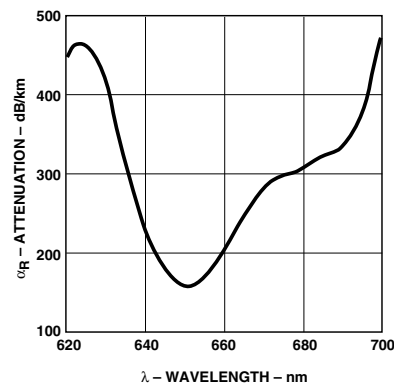

Figure 1. Typical POF attenuation vs. wavelength.
7. Note that  $\alpha_R$  rises at the rate of about  $0.0067$  dB/ $^\circ\text{C}$ , where the thermal rise refers to the LED temperature changes above  $25^\circ\text{C}$ . Please refer to Figure 1 which shows the typical plastic optical fiber attenuation versus wavelength at  $25^\circ\text{C}$ .